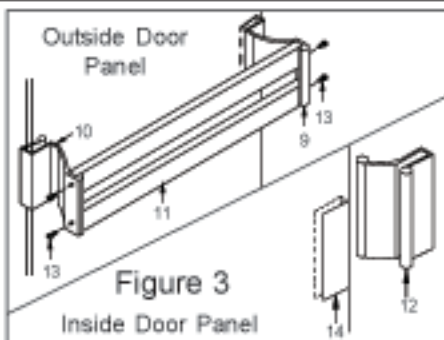

Figure 3
4. Hold 180-degree post (19) in place over end of guide and measure from post to wall to arrive at curb channel length. Cut curb channel (20) to length and set in place, weep hole(s) to inside. Apply a bead of silicone to underside of curb channel and insert post to curb key (22) into end of curb channel.
5. Set wall channel (21) on curb channel, hold plumb and mark the wall for the screw holes. Remove wall channel, drill holes into the wall and insert screw anchors. Fill curb channel with silicone where curb channel meets wall.
6. Place glass support block (24) in center of the curb channel. Set panel (26) into place in curb channel and into wall channel. Using the vertical seal vinyl (27) tack panel in place.
8. Cut header (8) to length and set in place over jamb, post and wall channel. Hold post plumb and secure to inside leg of header with a #6 x 3/8" screw (13). Secure header at walls to inside leg of jamb and to clip on the wall channel with #6 x 3/8" screws.
9. Insert vertical seal vinyl (27) into wall channel, post and curb channel on both sides of panel.
10. To set slider glass in place, hold inside slider panel (16)
11. Place center guide (7) to center position on sill. Make sure the center guide is hooked into the slot position on the sill, then drill a hole using a #31 drill bit and fasten center guide to sill with the #6 x 3/8" screw (13) provided.
12. Close panels and adjust to align the vertical edge of panels with jamb and post. Using a 1/4" box-end wrench, loosen the screws on the rollers, but don't remove completely. When screws are loose, adjust panel by sliding the screw in the slot. Note: when screws are loose be sure to support panel so it does not fall and break. Adjust inside slider as low as possible to reduce the gap between bottom of slider and sill taking care that the glass does not drag on the track or center guide. Adjust for bowed glass by using the slotted hole in the jamb. Secure bumpers to the jambs using 6-32 x 1/2" screw (5).
13. Set handle vinyl channel (14) in place over edges of outside glass panel (17) with bottom of vinyl in line with bottom of bumper. Tap towel bar brackets (9 & 10) in place. Bracket with pull should be to jamb side of slider opposite shower head. Assemble towel bars (11) to brackets using #6 x 3/8" SMS (13). (See Figure 3.)
14. Set handle in vinyl in place over edge of inside glass panel (16) with bottom of vinyl in line with bottom of bumper on edge facing the wall jamb. Tap inside door pull (12) in place. Note: Large Portion of Pull to Inside of Slider.